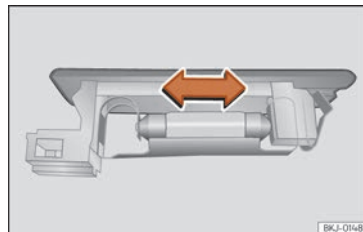

Fig. 58 Boot light.
- Press the bulb sideways and remove it from its housing »» Fig. 58.